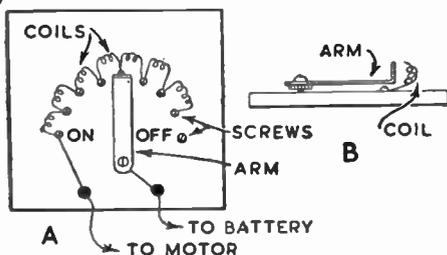

Fig. 1—Layout of circuit and side view
The controller is built on a wooden base about 2½ ins. by 2½ ins. by ¼ in. thick. On this, mark off a semicircle with a radius of about 1 in. and divide this into nine or ten equal sectors. At each point screw in a small brass round-headed wood screw, as shown (A) in Fig. 1. Do not drive these screws in completely yet.
Two small terminals are mounted on the base. The loop of wire mentioned goes to one. The second is connected to one screw in the semicircle, marked 'ON' in Fig. 1.
join the two ends thus formed to the terminals (see Fig. 1). When the switch is in the 'OFF' position no current will flow. The current will increase as the arm is moved round, reaching maximum at the 'ON' position, with no resistance in circuit.